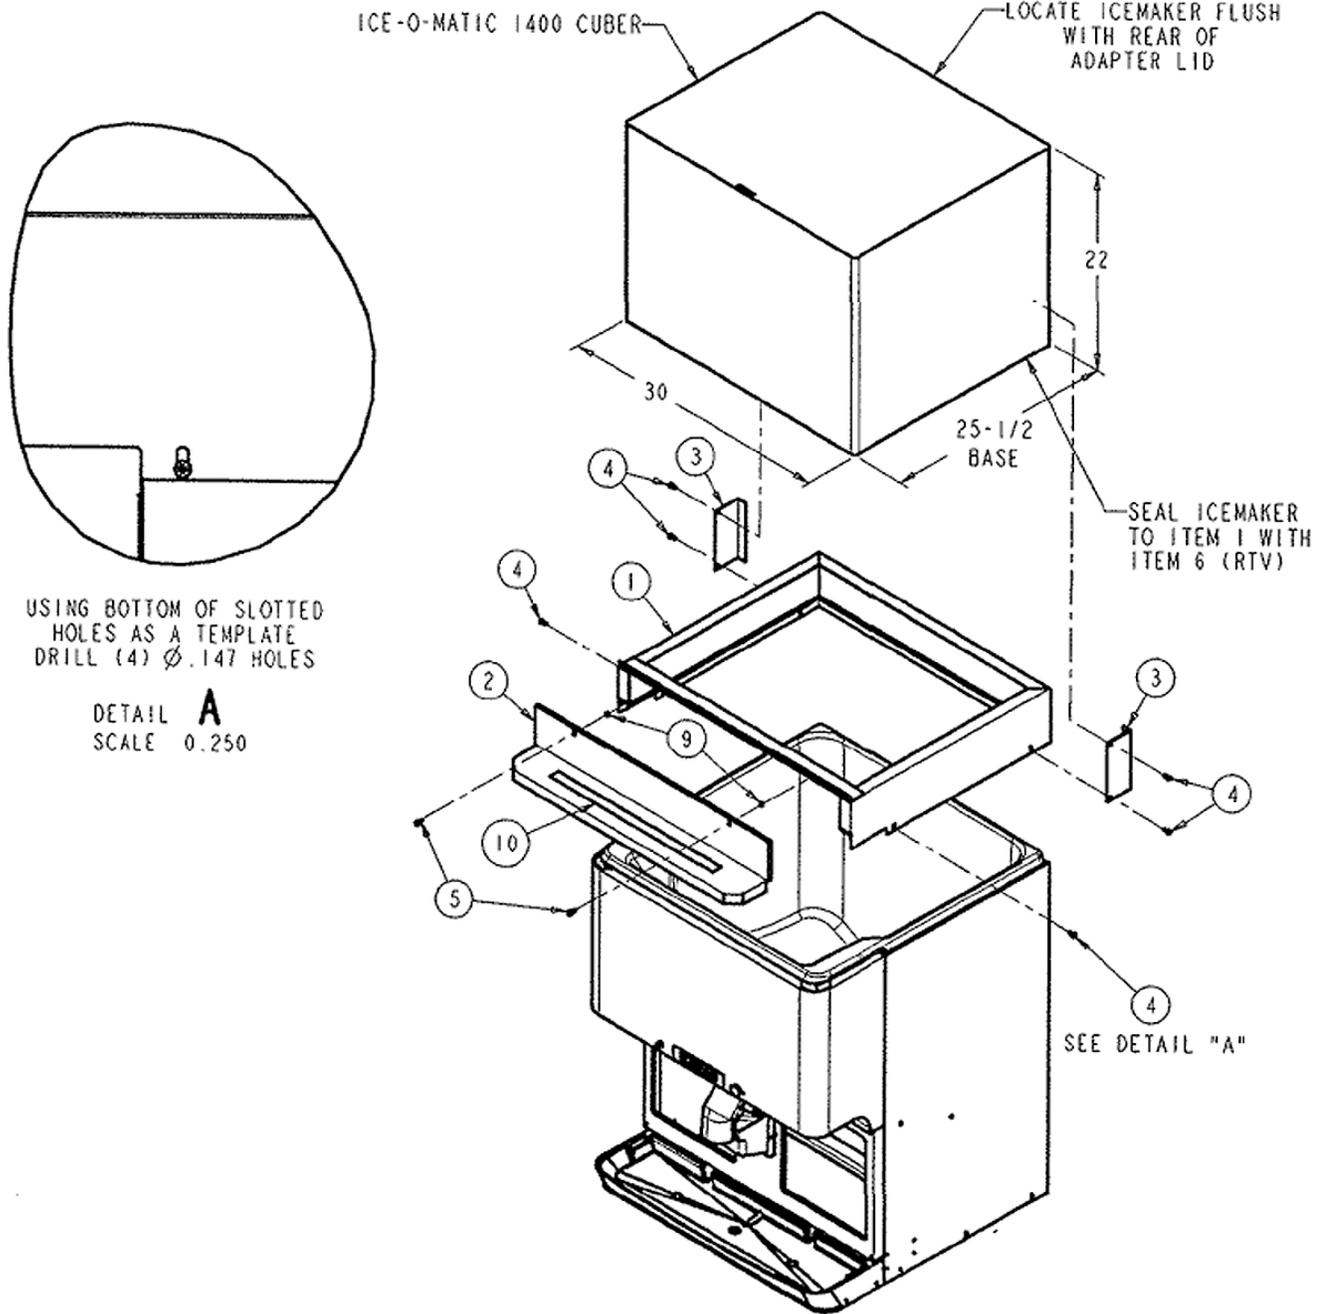
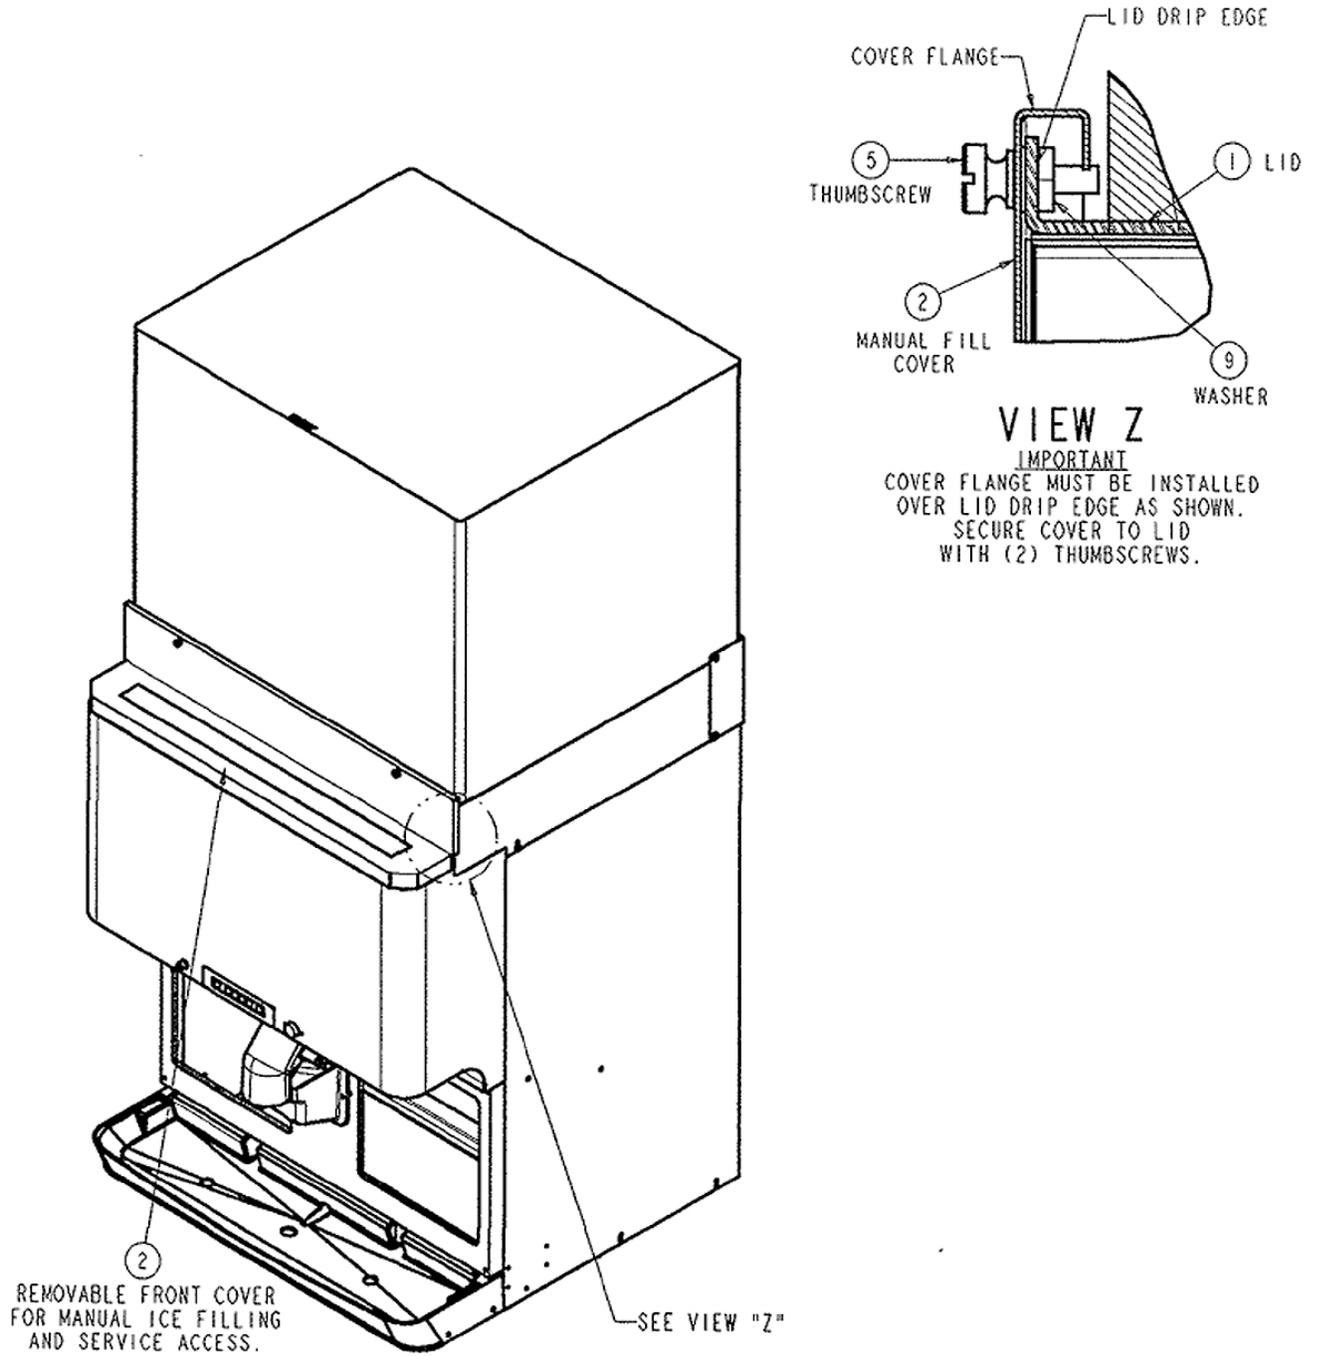

Figure 2.
Figure 3.
4. Position the ice maker adapter lid on the dispenser, flush with the rear of the cabinet as shown in Figure 2.
5. Using the slotted holes in the adapter lid as a template, drill (4) 0.147" diameter holes (#26 drill) at the bottom of the slots into the dispenser cabinet (see Detail A, Figure 2). **Use extreme care not to drill into the ice storage bin.** Secure the lid to the dispenser with (4) #10 sheet metal screws (item 4).
7. Install the ice maker mounting brackets (item 3) as shown in Figure 2 by first removing the (2) rear screws from the dispenser lid. Use those screws to mount the brackets to the lid. Next, using the brackets as templates, drill 0.147" diameter holes into the ice maker cabinet. Use extreme caution not to drill into any ice maker components (condenser, tubing, etc.). Secure the brackets to the ice maker cabinet with the #10 sheet metal screws provided in the kit.
9. Install the caution label (item 10) on the manual fill cover as shown in Figure 2. Secure the cover in position over the front bin access opening by placing it over the front drip edge of the ice maker adapter lid (refer to Detail A of Figure 3). Note that with the cover installed properly, it is held in position by the lid drip edge and cannot be removed without first lifting it over the lid drip edge. Check that the cover has been properly installed by making sure that it will not slide forward off the dispenser. Secure the cover to the lid with the two thumbscrews (item 5) and captivated washers (item 9).